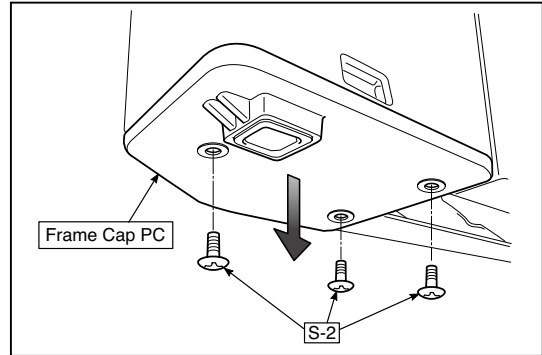

Fig.6
### 2) Remove the Frame Cap PC. (See Fig. 6.)
- 1.Remove the “S-2” screws shown in the figure 6 and then remove the Frame Cap PC.